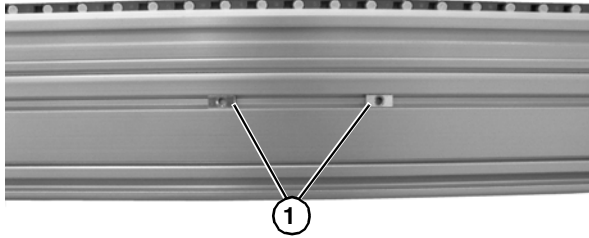

Figure 20
2. Install T-bars (**Figure 20, item 1**) into T-slots of conveyor.